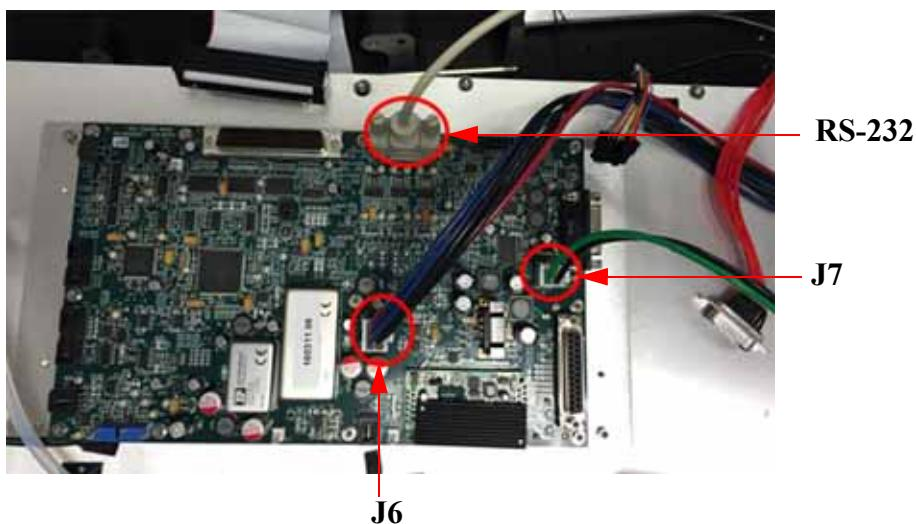

Figure 5.4-4. J6, J7 and RS-232
- 13. Only connect J6, J7 and a standard R-S232 serial cable. Connect the RS-232 cable from the board to the service engineer's laptop. See Figure 5.4-4.